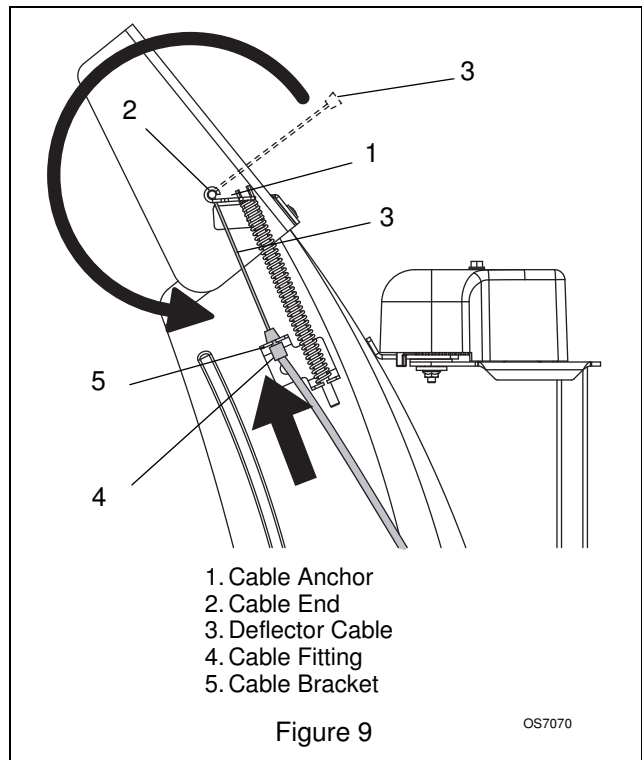

Figure 9
2. Insert the barrel on the cable end into the bracket on left side of chute deflector (Figure 9).